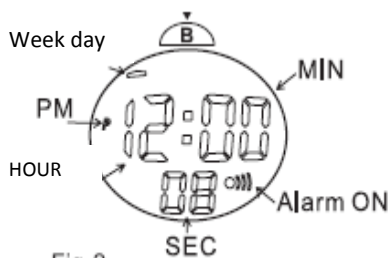

Fig.2
1. Depress 3 times on **B** to go to the CLOCK Mode (fig2), you're in mode